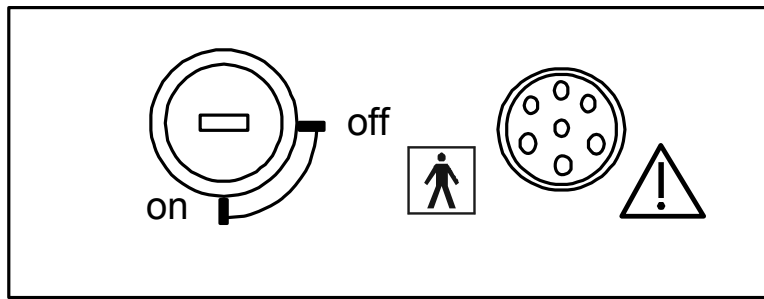

Figure 3.1— Laser Sys*Stim 540, Controls and Receptacles Located on the Front of the Unit
1. Place the Keyswitch at the front of the unit in the ON position. (Figure 3.1) Check the battery charge to make sure the battery has a charge. The battery level display is displayed by a bargraph on the top panel, this gives the practitioner an indication of the level of charge of the internal battery. If normally operated with connection to mains the charge level should be approximately 90% to 100%.